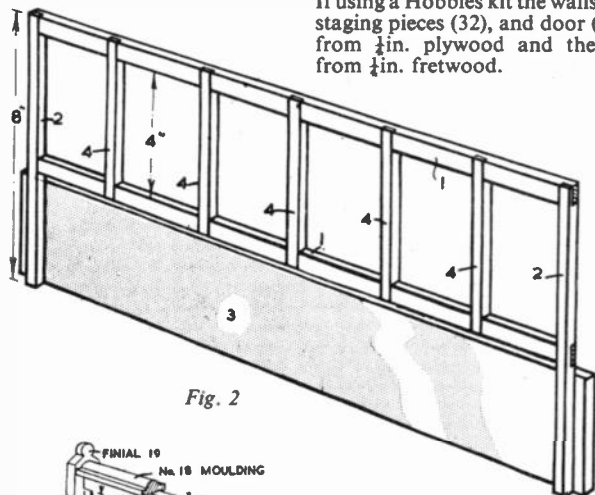

Fig. 2
Use strong glue and pin where necessary in assembling these sides which when finished should look as shown in Fig. 2. This also shows the 'wall' (3) glued and pinned to the stripwood framing, which of course goes inside the 'wall'. Do not add the sill (5) at this stage.